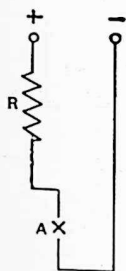

FIG. 79
**Prob. 66.** The voltage across terminals of the arc lamp in Fig. 79 is 110 volts. If the arc takes 10 amperes at 85 volts and gives 800 c-p.